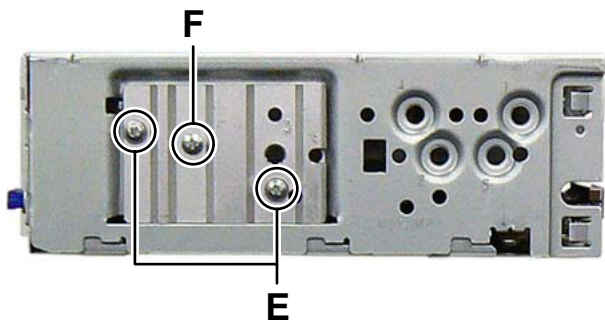

Fig.4
- (2) Remove the two screws **E** and the one screw **F** attaching the HEAT SINK. (See Fig.4)